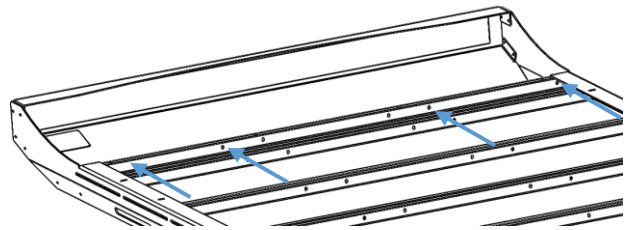
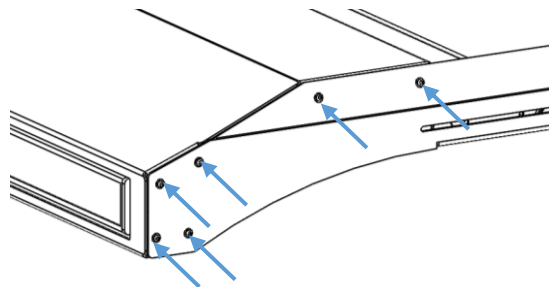

Figure 4: Attachment of Air Dam to Flooring
Figure 5: Attachment of Air Dam to Side Rail (Driver's Side Shown)
6. Slide the Front Air Dam into position at the front and secure with provided #10 hardware as shown in Figures 4 & 5. Start with attaching the air dam through the front of the flooring (Figure 4), then attach the air dam to the side rails (Figure 5).
7. **WARNING:** Failure to install any of the front-most bolts (Figure 5) may VOID the warranty.